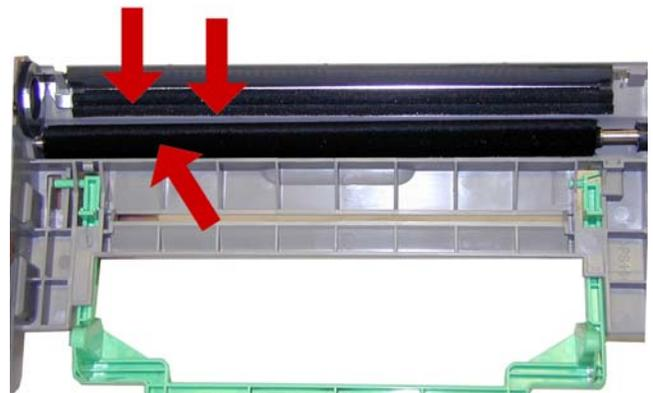

Figure 31
28) Clean off all the waste toner from the felt roller, and the felt brushes with compressed air. See **Figure 31**